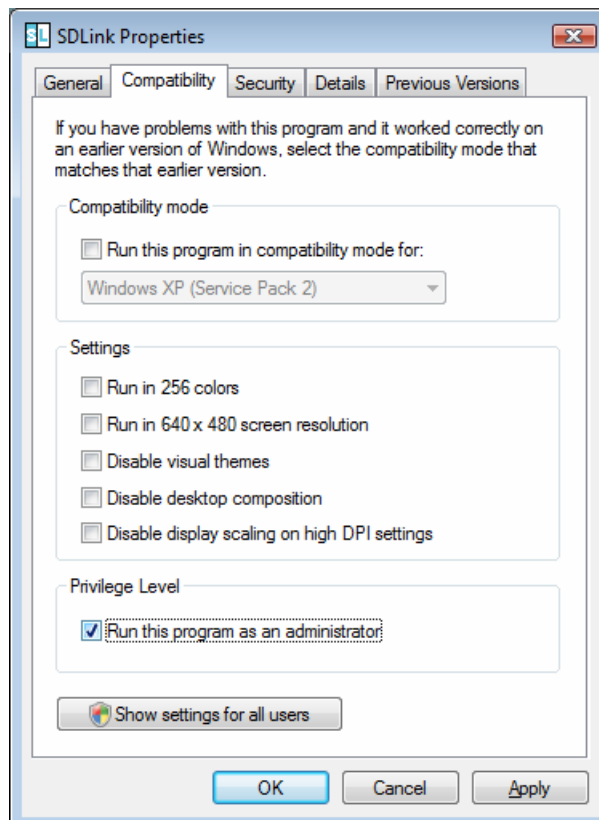

Figure 2-1 Compatibility Tab on Windows Vista
- 2) Then choose “Compatibility” tab. In the “Privilege Level” session, check the box “Run this program as an administrator”, as shown in Figure 2-1. Then click OK.